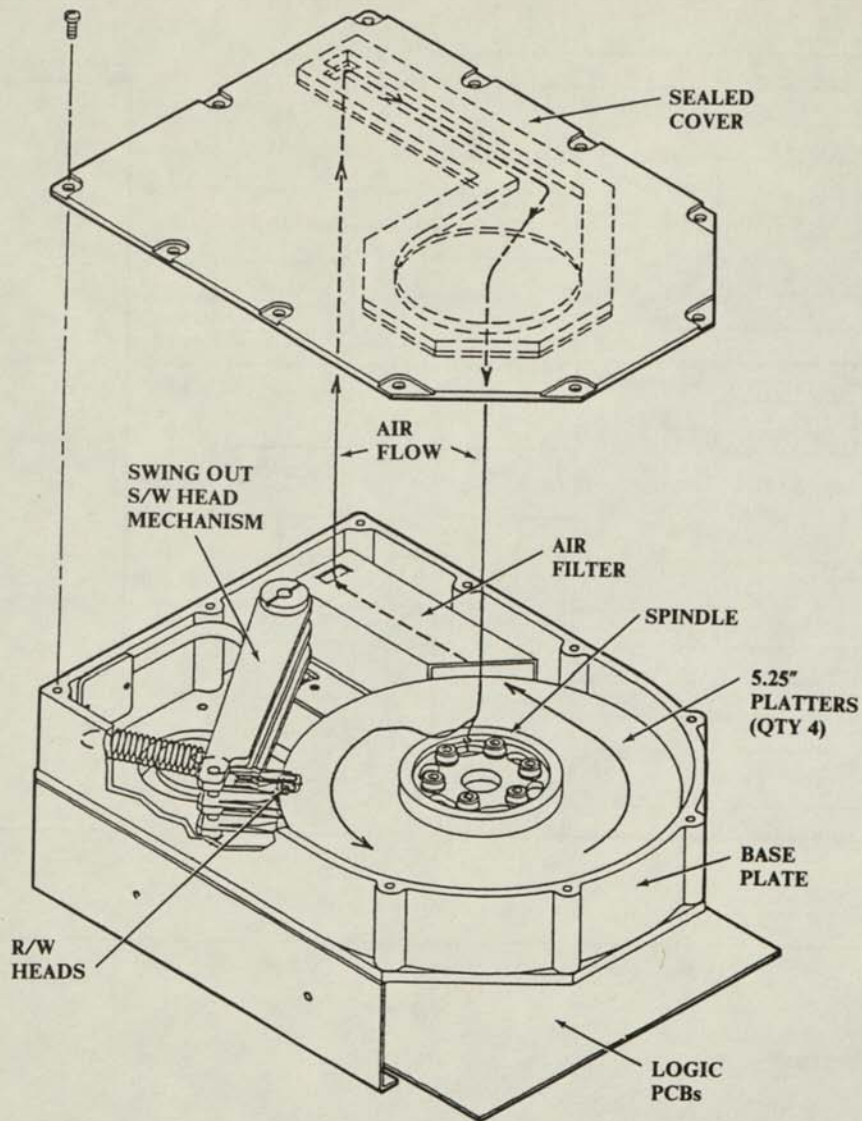
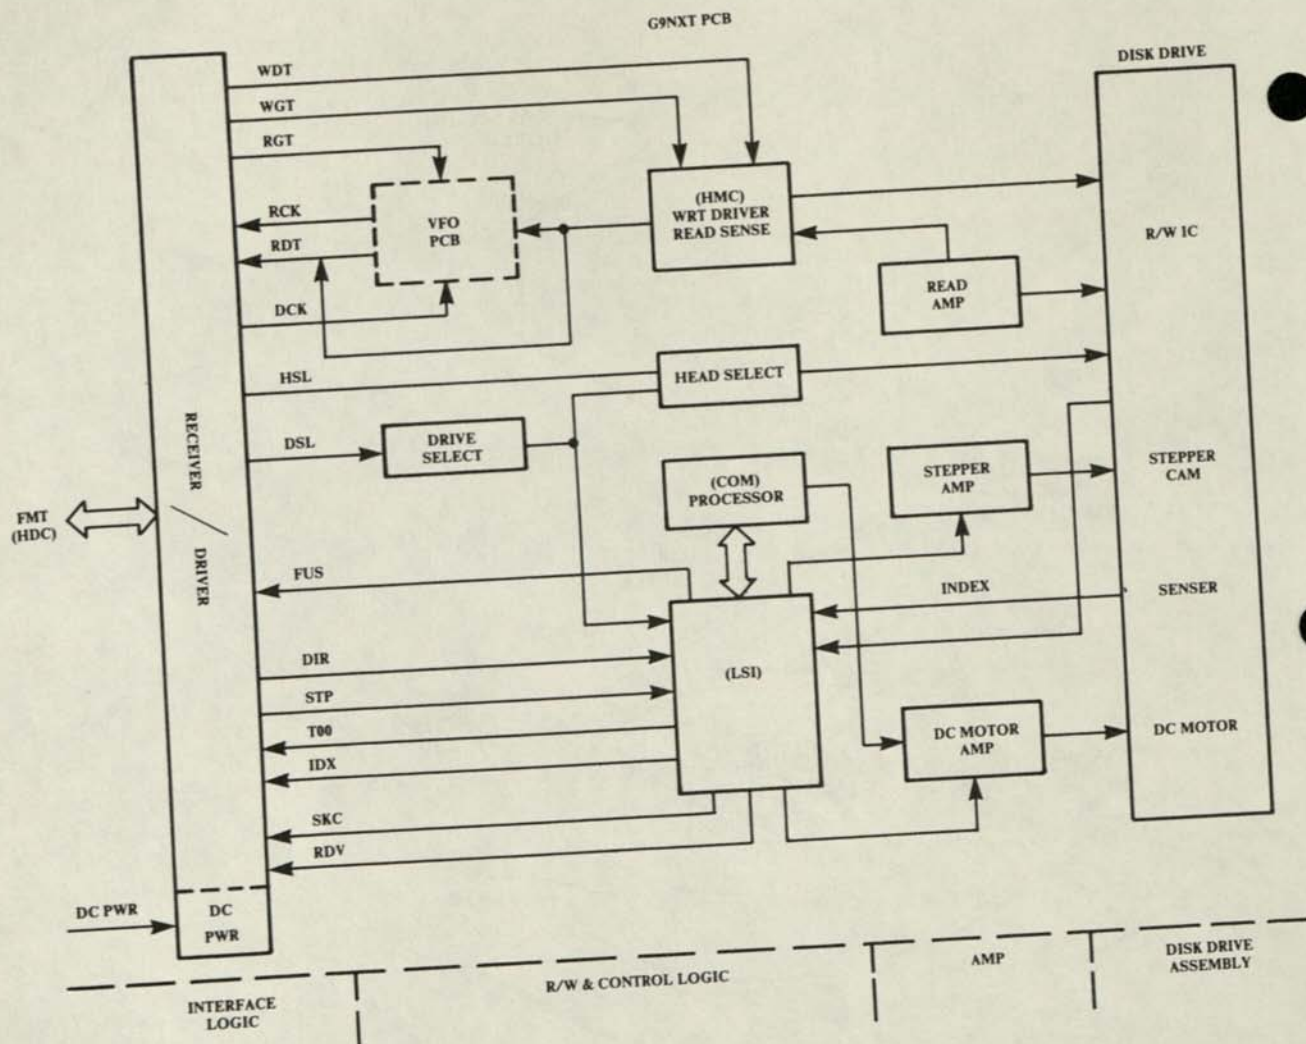

Figure 3-1 APC Disk Module (Exploded View)
Figure 3-2 Functional Block Diagram
Figure 3-1 illustrates the modular construction and compactness of the disk drive assembly, and Figure 3-2 provides a functional block diagram of the disk drive logic. The disk drive assembly, also called the Disk Enclosure (DE), consists of a base plate, a swing out read/write head mechanism, magnetic read/write heads, a top sealing cover, and many other subassemblies shown in Figure 3-1. Note the "Air-Flow" path through the module when the sealing cover is in place. Included are the G9QKQ or G9NXT logic PCB and the G9QKR VFO PCB (the latter is not shown in the illustration).
The G9NXT PCB, and when installed, the G9QKR PCB, are referred to as a "Package Assembly" and provides the following disk drive logic functions (see Figure 3-2).